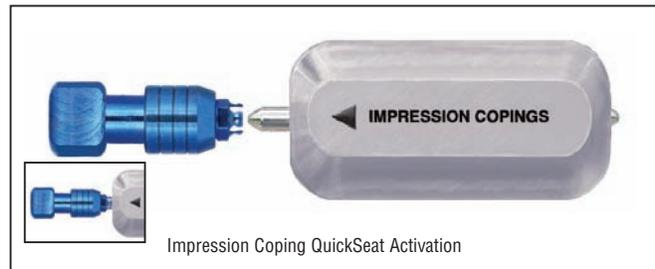

fig. 2
- **Impression Copings:** Insert the impression coping onto the pin, fingers first and slide inward until the fingers meet the tool (fig. 2).